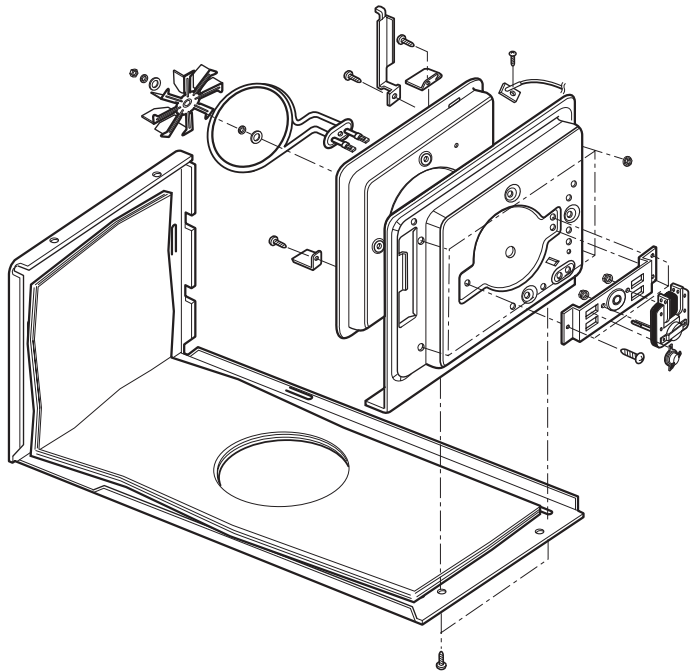

Figure 19
L. REMOVING CONVECTION HEATER AND THERMISTOR (Figure 19)
- (1) Remove the out case.
- (2) Remove the air duct by removing six screws securing it to the oven front plate, guide air and glasswool-L cover.
- (3) Disconnect the wire leads of air duct.
- (4) Remove the magnetron.
- (5) Remove the latch board assembly.
- (6) Remove the bottom plate by removing four screws.
- (7) Remove the four net screws securing chamber assembly.
- (8) Lift the chamber assembly from the oven cavity.
- (9) Remove three screws securing the heater of the chamber assembly.
- (10) Lift the convection heater from the chamber assembly.